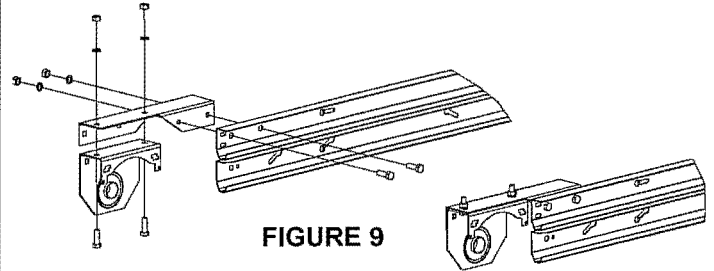

FIGURE 9
- Install low headroom rear headplate to the upper horizontal using two bolts and nuts. Install the bracket assembly (header support) to the low headroom rear headplate using two bolts and nuts. (Figure 9)